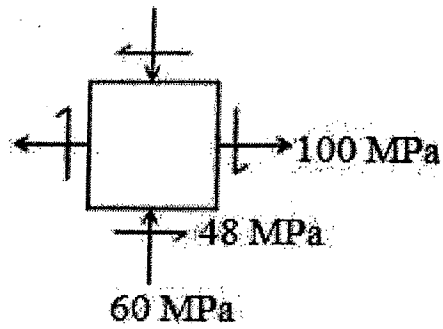

Figure Q5
5. Construct the Mohr's circle for the given state of stress shown in Figure Q5. Hence determine,